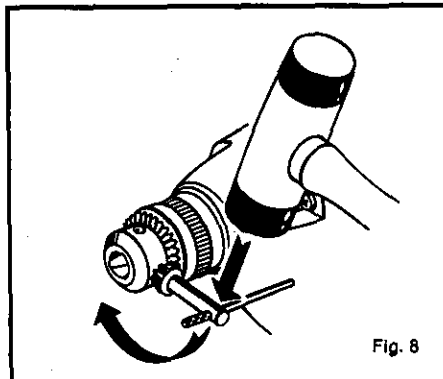

Fig. 8
See Figures 8, 9, & 10.
3. Insert chuck key into chuck and tap sharply with a mallet in a clockwise direction as shown in Figure 8.